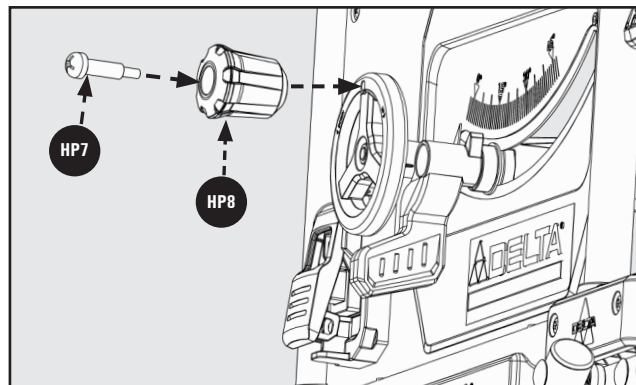

FIGURE 6
1. Insert Handwheel Knob Shoulder Screw (HP7) into Height Adjustment Knob (HP8) as shown in Figure 6.